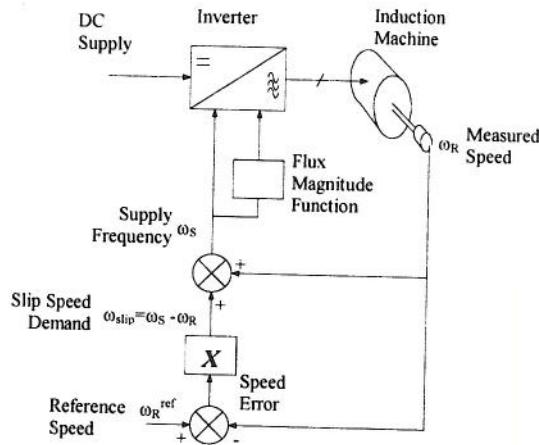

Figure Q2.1 Slip compensated speed control
- d) An induction motor can be controlled using slip-compensated speed control. A simplified diagram of this system is shown in Figure Q2.1. Explain the general principle of operation of the scheme and describe the function of the box marked “X”.